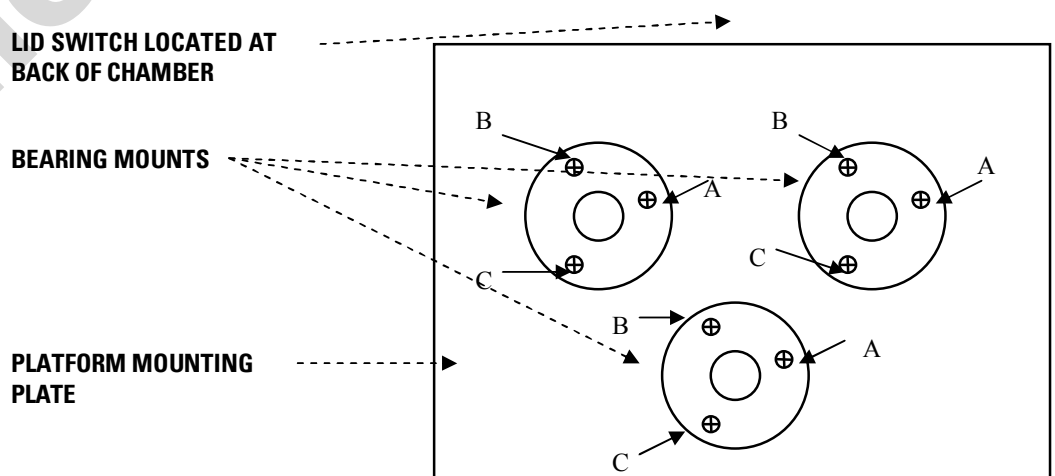

Figure 6-1. Platform Mounting Plate
1. Remove the platform by loosening the 4 thumbscrews, remove ribbed mat, remove the 9 smaller screws on the platform mounting plate, there are 3 Phillips screws at each of the 3 bearing mounts. Refer to Figure 6-1.